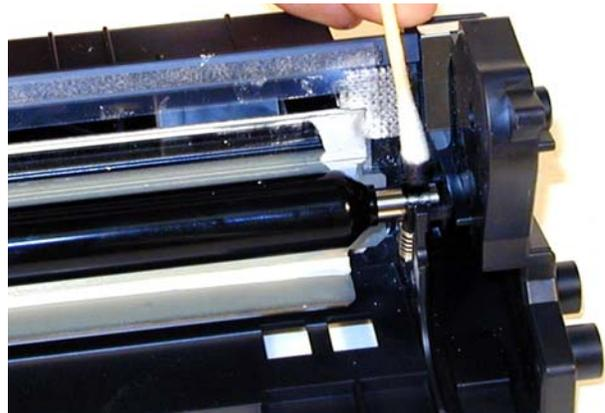

Figure 31
12) Clean the 2 PCR holders, and place a small amount of conductive grease on the black PCR holder, install the PCR. See **Figure 31**